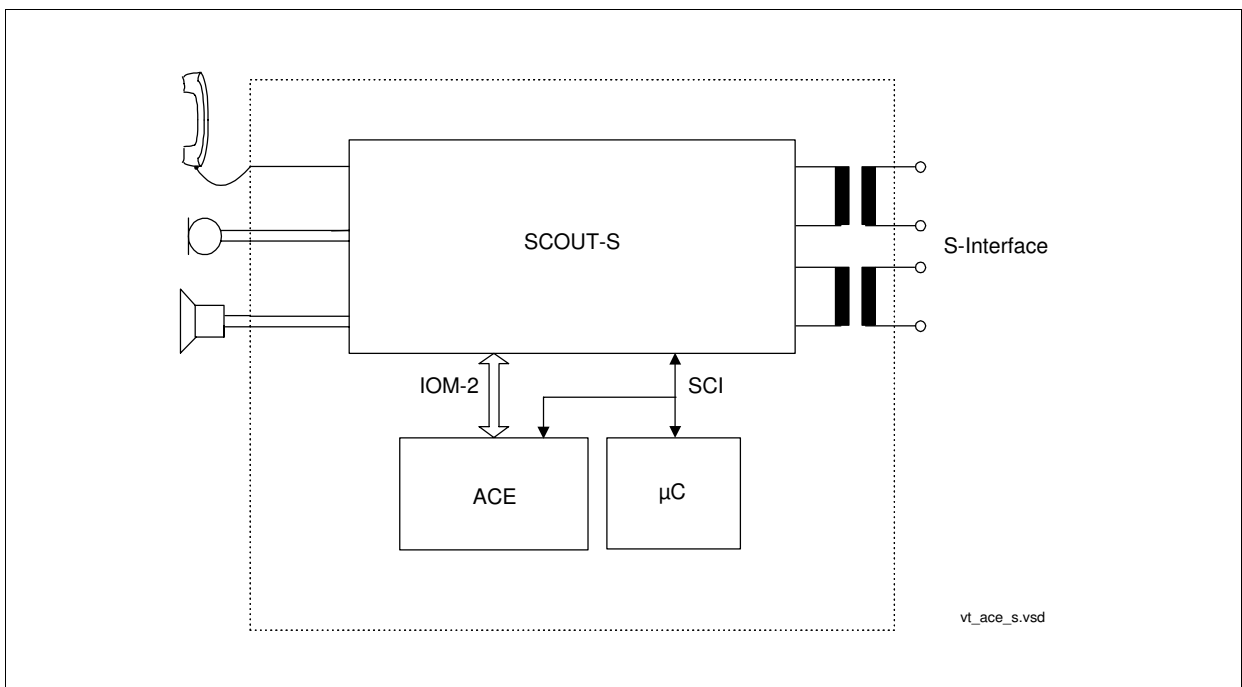

Figure 5
- ISDN voice terminal as featurephone with acoustic echo cancellation (**Figure 5**)